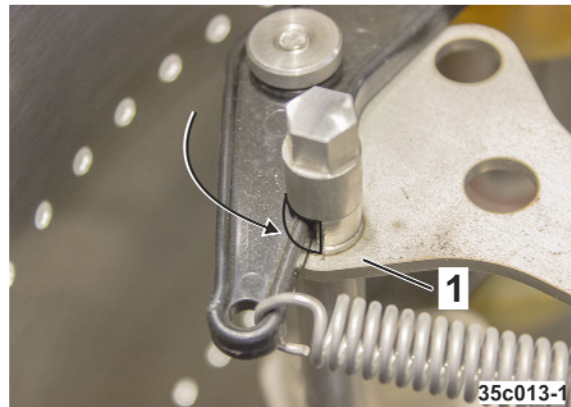

Fig. 334
4. The actuation lever must completely lock in place in the groove (Fig. 334/1).